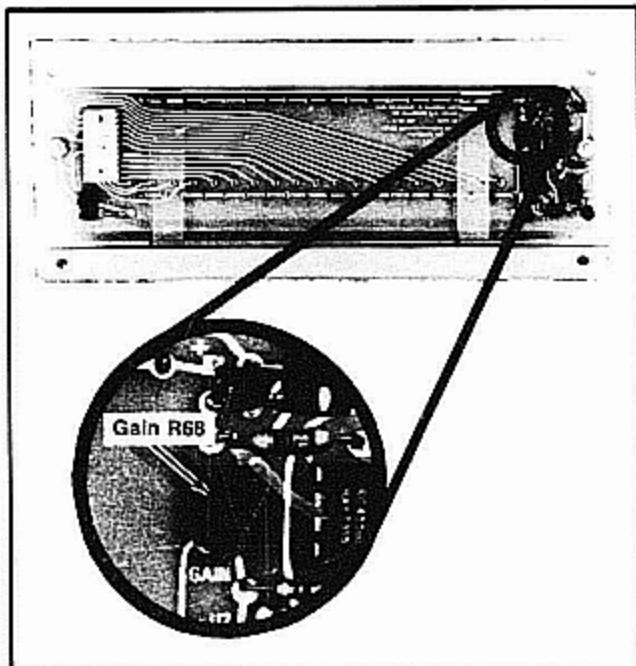

Fig. 10. Location of Gain R68.
e. ADJUST—Gain R68 (see Fig. 10) for sawtooth waveform amplitude of exactly 5.5 volts.